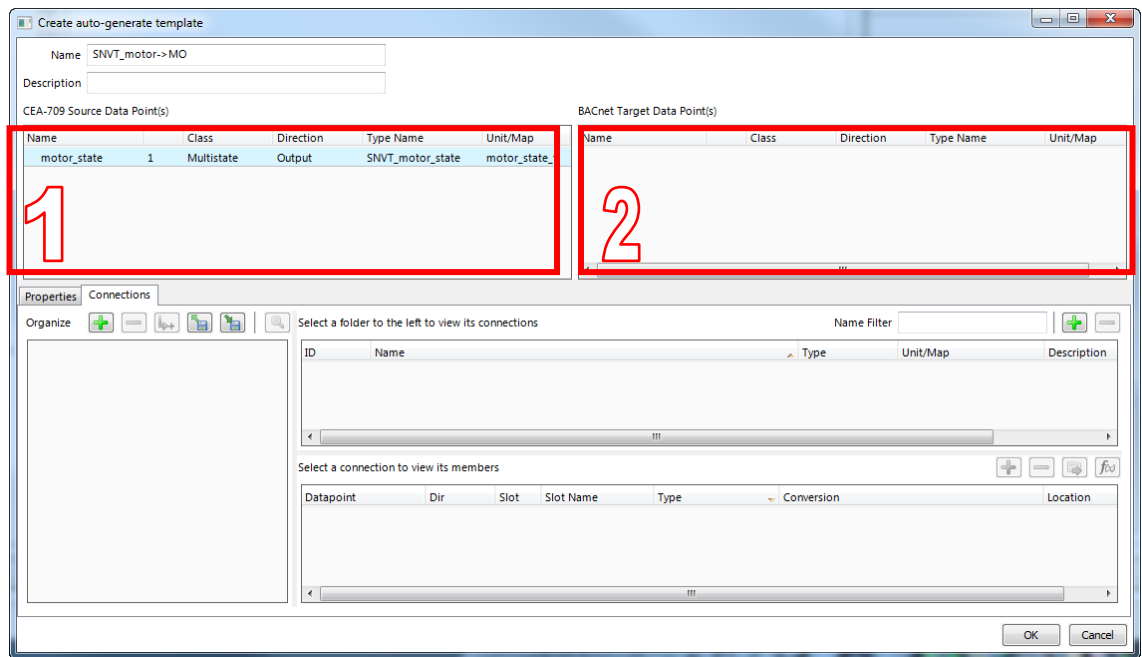

Figure 176: Auto-generate template editor.
- The auto-generate template editor opens as shown in Figure 176. It contains two data point lists. The left-hand (denoted '1') list is pre-filled and contains the selected source data points. They are locked and cannot be modified. The right-hand list (denoted '2') is intended for creating the desired target data points.